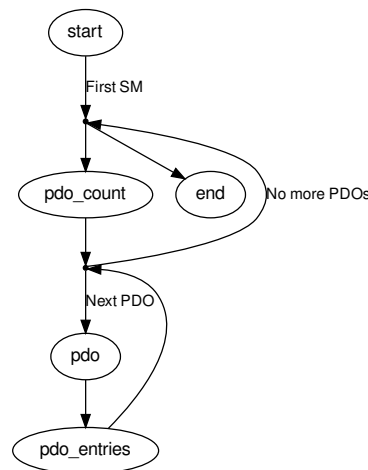
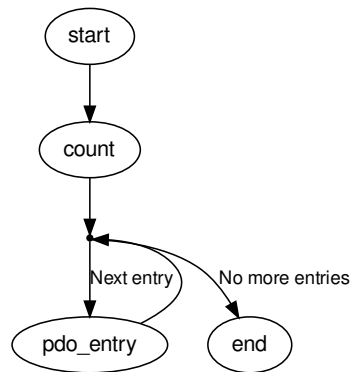

Figure 5.7: Transition Diagram of the PDO Reading State Machine
Figure 5.8: Transition Diagram of the PDO Entry Reading State Machine
**PDO Reading FSM** This state machine (Figure 5.7) has the purpose to read the complete PDO configuration of a slave. It reads the PDO assignment for each Sync Manager and uses the PDO Entry Reading FSM (Figure 5.8) to read the mapping for each assigned PDO.
**PDO Entry Reading FSM** This state machine (Figure 5.8) reads the PDO mapping (the PDO entries) of a PDO. It reads the respective mapping SDO ( $0x1600 - 0x17ff$ , or  $0x1a00 - 0x1bff$ ) for the given PDO by reading first the subindex zero (number of elements) to determine the number of mapped PDO entries. After that, each subindex is read to get the mapped PDO entry index, subindex and bit size.